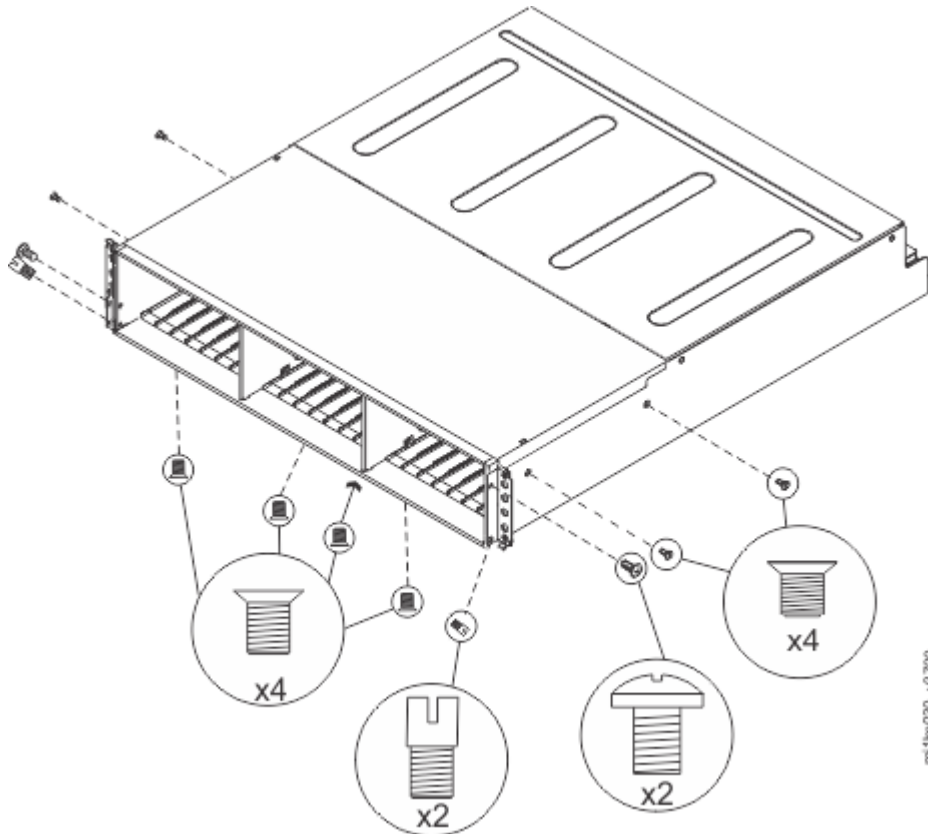

Figure 94. Removing the screws of an expansion enclosure assembly
12. Remove the four screws from the bottom of the enclosure (see Figure 94 on page 145). Remove the three screws that are near the front and the screw that is near the middle. Label these screws to indicate the location from which they are removed and place them aside.
14. Remove the three screws and one screw-pin on the right side that secure the midplane assembly to the enclosure (see Figure 94 on page 145). Label the screws to indicate the location from which they are removed and place them aside.
15. Remove the three screws and one screw-pin on the left side that secure the midplane assembly to the enclosure (see Figure 94 on page 145). Label the screws to indicate the location from which they are removed and place them aside. See Figure 4.